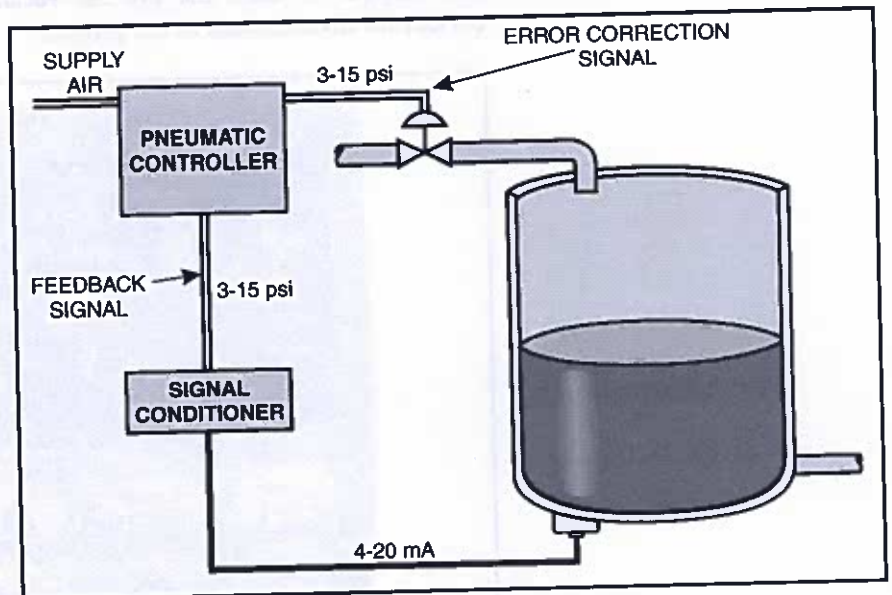

Figure 2. Basic Signal Flow for a Pneumatic Controller
Figure 2 shows an example of the basic signal flow to and from a pneumatic controller. The controller corrects disturbances in the process according to the setpoint (SP) and feedback signal.